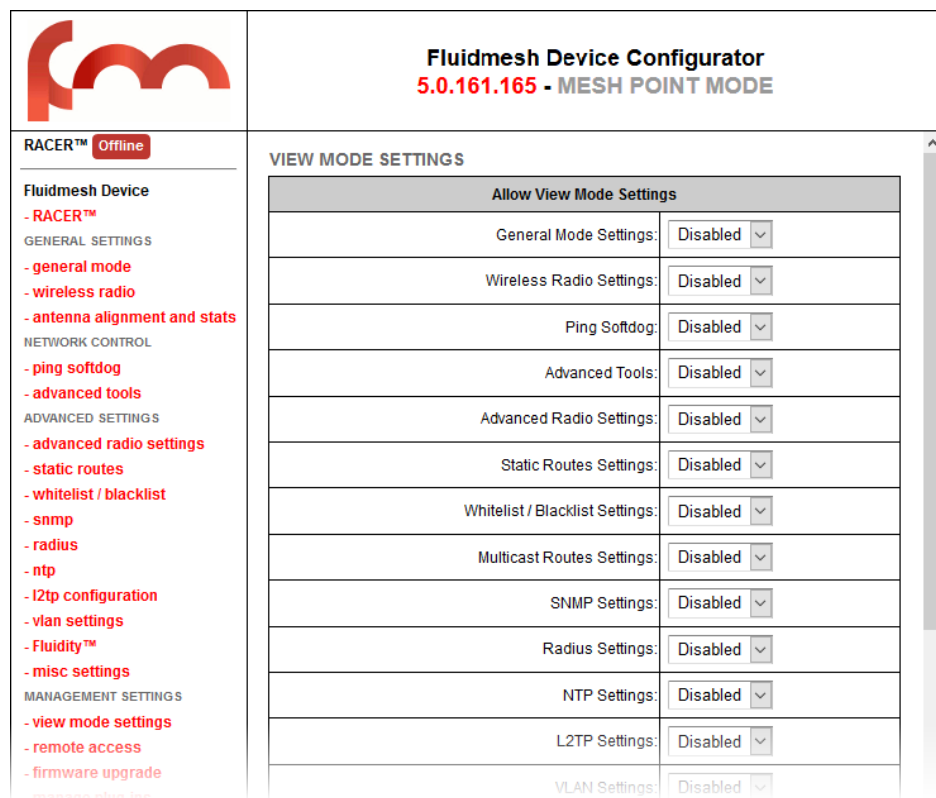

Figure 52. Configurator GUI (VIEW MODE SETTINGS dialog)
2. Click the **-view mode settings** link under **MANAGEMENT SETTINGS** in the left-hand settings menu (Figure 52 \(page 125\)).